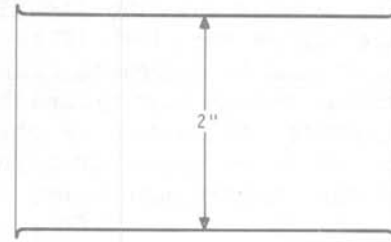

Figure 11B
- ( ) Refer to Figure 11B and adjust the Generator's Trace control and the Oscilloscope's vertical positioning control until the waveform fills the area between the bottom and top lines on the screen graticule. NOTE: If your oscilloscope does not have a graticule or lines on the screen, use a grease pencil and mark a line on the screen at the top and bottom of the waveform.